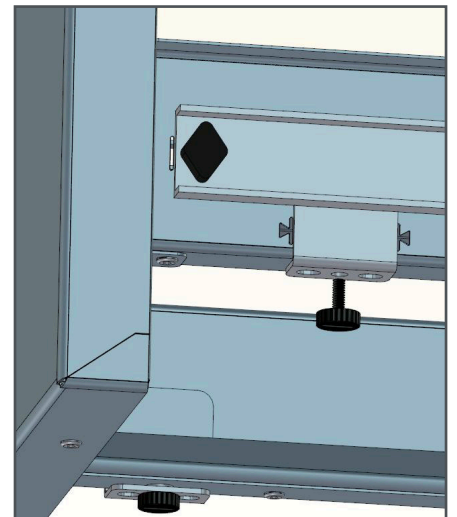

Fig 3 - Thumbscrew fitting detail
- (b) Line up the indicators on the side of the drawer wrap with the carrying brackets on the runners, see Fig 3.